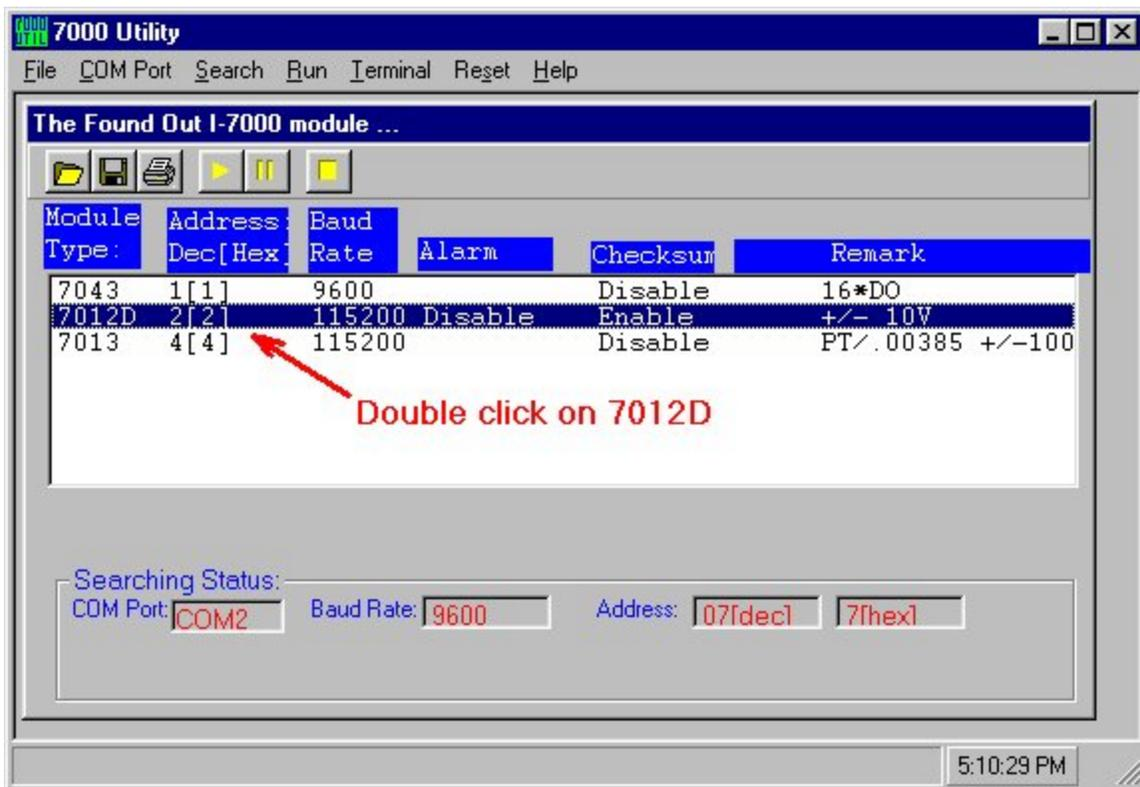
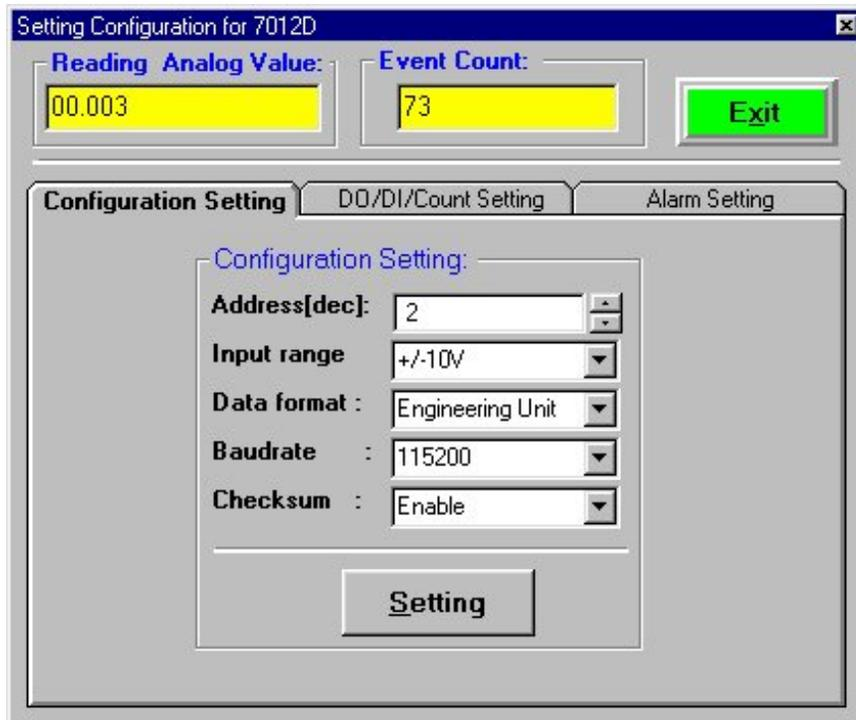
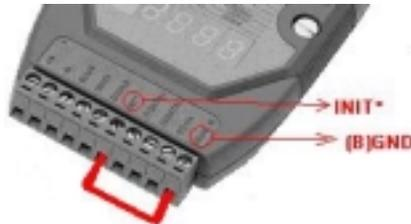

Figure 2-5-4. Showing the configuration settings for the I-7012 module.
Figure 2-5-5. The “Setting Configuration for 7012D” window pops up.
Figure 2-6-1. Using a wire to short the pin of “INIT*” and “(B) GND”.
For example, in order to configure the I-7012; double click the 7012 from the list as shown in Figure 2-5-4. Then, a window titled "Setting Configuration for 7012D" pops up as shown in Figure 2-5-5.
Before clicking the “Setting” button on the “Setting Configuration for XXXX” window to change either the baud rate or checksum, please refer to Figure 2-5-5. Users have to short the “INIT*” and “GND” pins of this module. Please refer to Figure 2-6-1 ~ 2-6-3.
- Use a wire to connect the “INIT*” and “GND” of this module. Refer to Figure 2-6-1.